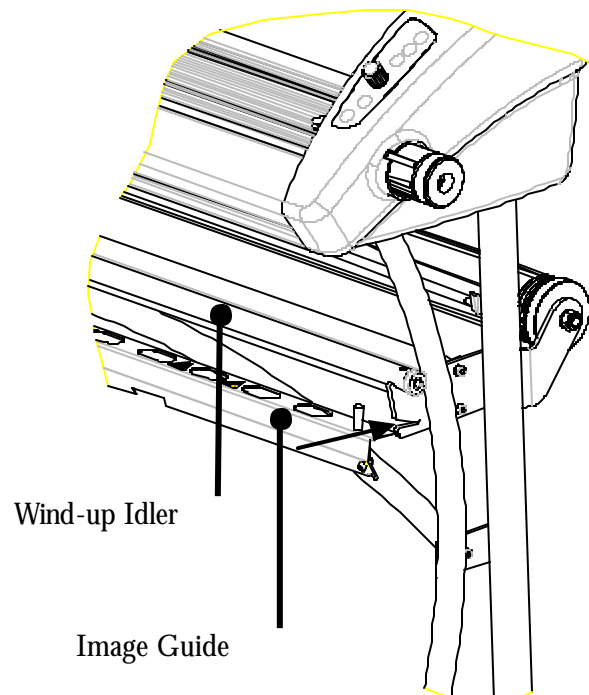

Figure 11
- When not in use, the Image Guide and the wind-up idler can be stored in the stand. (Figure 11)